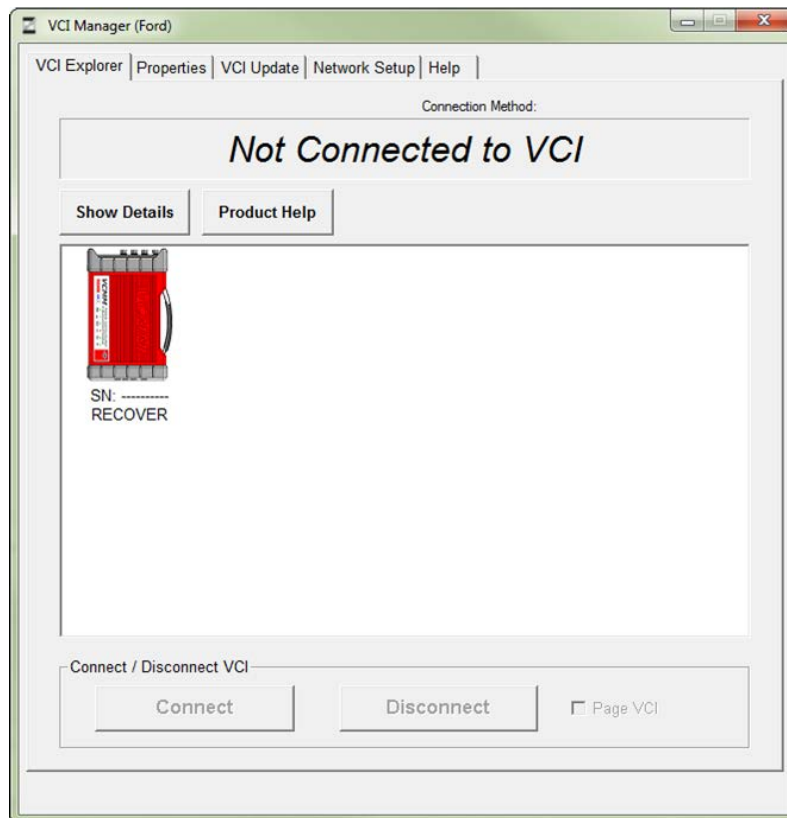

Figure 4
5. The VCI Manager will display an icon of a VCMM in the Recover state (see Figure 4).